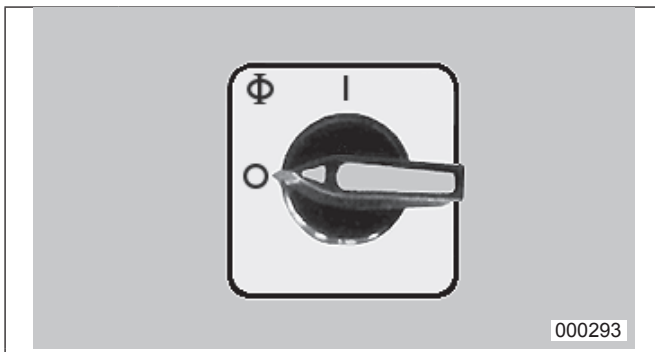
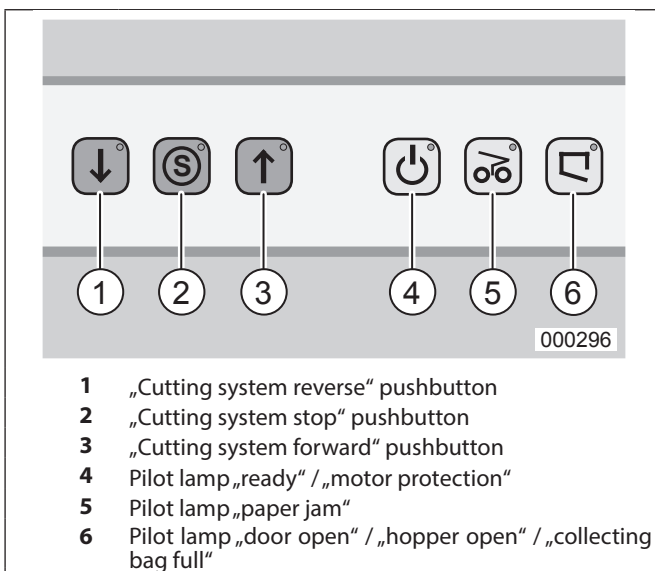

fig.2 Operating element (Emergency-stop)
fig.3 Operating elements foil
1. Move the main switch (fig. 2) to position „1“.
2. Press the „forward“ button (fig.3/3). The cutting system starts running.
Continuously lights when the mains switch (fig.2) is operated.
Flashes when the motor is overloaded. The machine cannot be started during the cooling down phase of the motor. Additional the pilot lamp of the control display (fig.3/6) lights up.
To start, switch on the unit by operating the mains switch (fig.2). The pilot lamp marked „ready for operation“ (fig.3/4), as well as the red stop-button „S“ (fig.3/2) will light to indicate that the machine is ready for operation.
2. Press the pushbutton switch „forward“ (fig. 3/3).